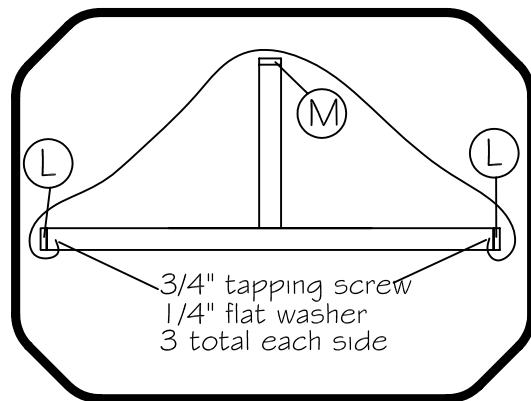

FIG. 8
Step 3: Drape tarp over Tarp Support 'M' and End Caps 'L'. Attach one side of tarp to inside of one inside of End Caps 'L' with (3) 3/4" tapping screws and 1/4" flat washers. Pull other side of tarp tight and attach to other End Cap 'L' with (3) 3/4" tapping screws and 1/4" flat washers. (see Fig 8 & 9)